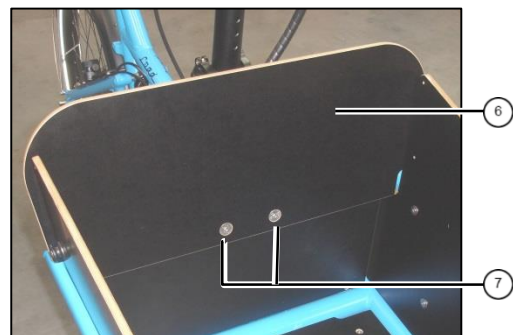

Fig. 3: Cargo back wall
5. Install Cargo back wall ⁶ with countersunk screws ⁷ (see fig. 3).